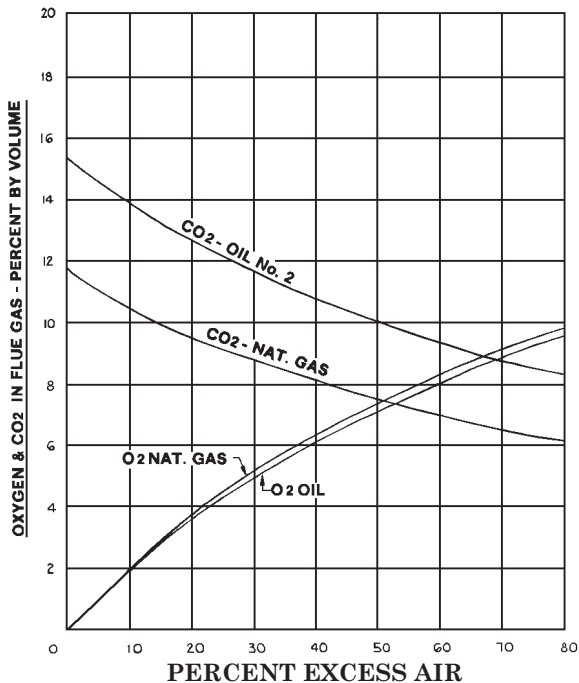

Figure 15. Relation between Oxygen, CO2 and excess air in flue gases for Natural Gas and Fuel Oil.
**5.4.1 Percent CO2 Shows Volume of Excess Air (Refer to Figure 15)**
### 5.5.1 Percent O2 Shows Volume of Excess Combustion Air (Refer to Fig. 15)
Proper O2 content for any fuel fired is the lowest O2 value that will ensure complete, clean combustion with adequate safety margin for variations in fuel, draft, atmospheric conditions, and mechanical wear. Consult manufacturer of heating equipment or local authorities for specific recommendations. Figure 15 illustrates the relationship between CO2, excess air and oxygen for gas and oil.